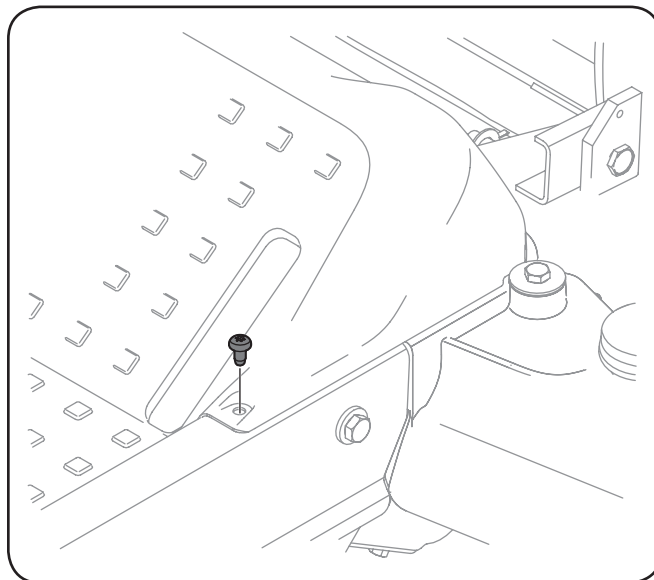

Figure 1-5
- On all models the floor board needs to be removed to properly drill the mounting holes and route the wiring. To remove the floor board, remove the screws securing it to the frame. See Figure 1-5.